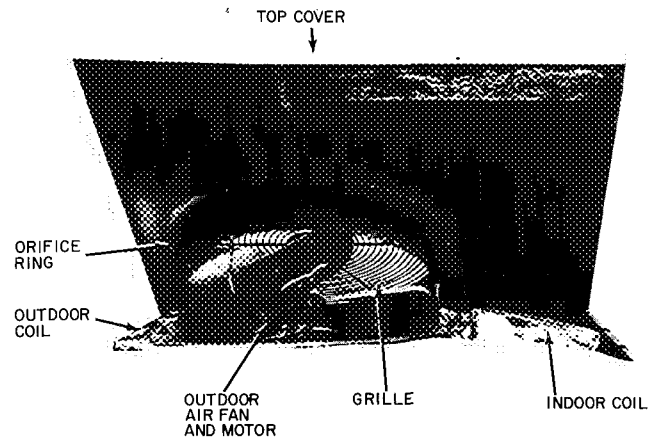

Fig. 22 — Component Location
1. Shut off power to unit. Remove unit access panel, Fig. 22.
COIL — Lift or remove unit top cover for access to indoor coil. See Fig. 22. Inspect coil periodically. Clean as described under Outdoor Coil below.
COIL — Lift or remove top cover for access to outdoor coil. See Fig. 22. Inspect coil periodically.
OUTDOOR FAN AND MOTOR REMOVAL – Remove screws holding outdoor coil fan grille in place. Disconnect fan motor leads from controllers and capacitor. Lift complete fan, motor, and orifice assembly (Fig. 22) out of unit. After replacing fan motor assembly, reconnect fan motor leads.